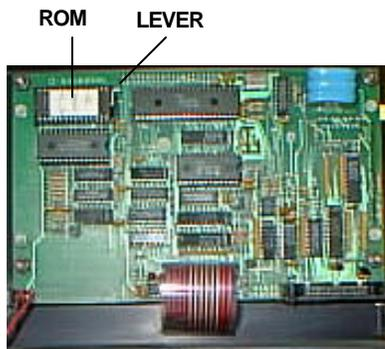

Figure 3-3: ROM on the CPU Board
- Refer to Figure 3.3 and locate the ROM in the upper left corner of the CPU board.